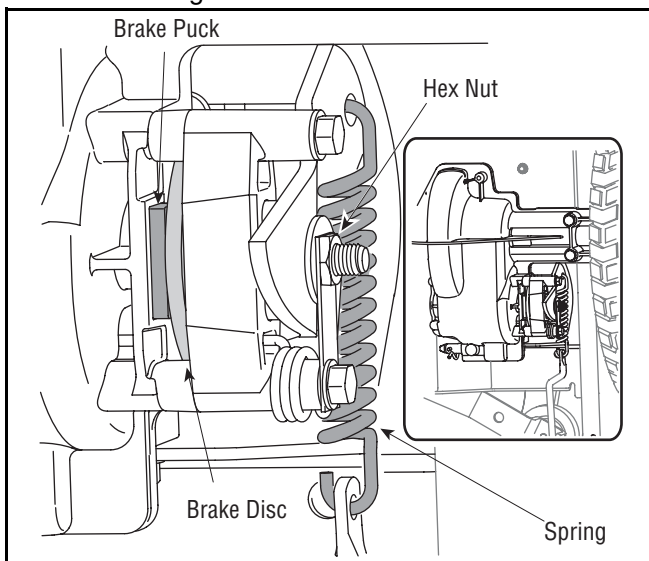

Figure 10
- Looking at the transmission from the rear of the tractor, locate the compression spring and brake disc. See Figure 10.
- Loosen, but do NOT remove, the hex nut found on the right side of the brake assembly. See Figure 10.